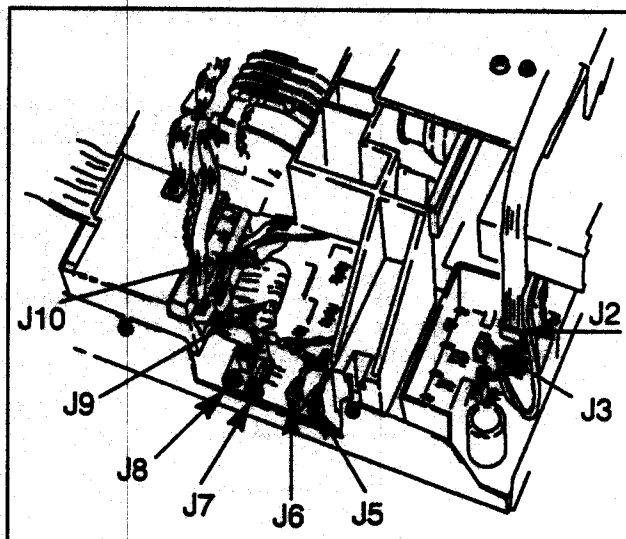

Figure 6-14. Main PCA Cable Connections
- g. Disconnect all cables from the PCA. See Figure 6-14.
- d. Connect all the cable assemblies to the PCA. See Figure 6-14.
- d. Disconnect the motor and encoder cables from the PCA at J5 and J7. See Figure 6-14.